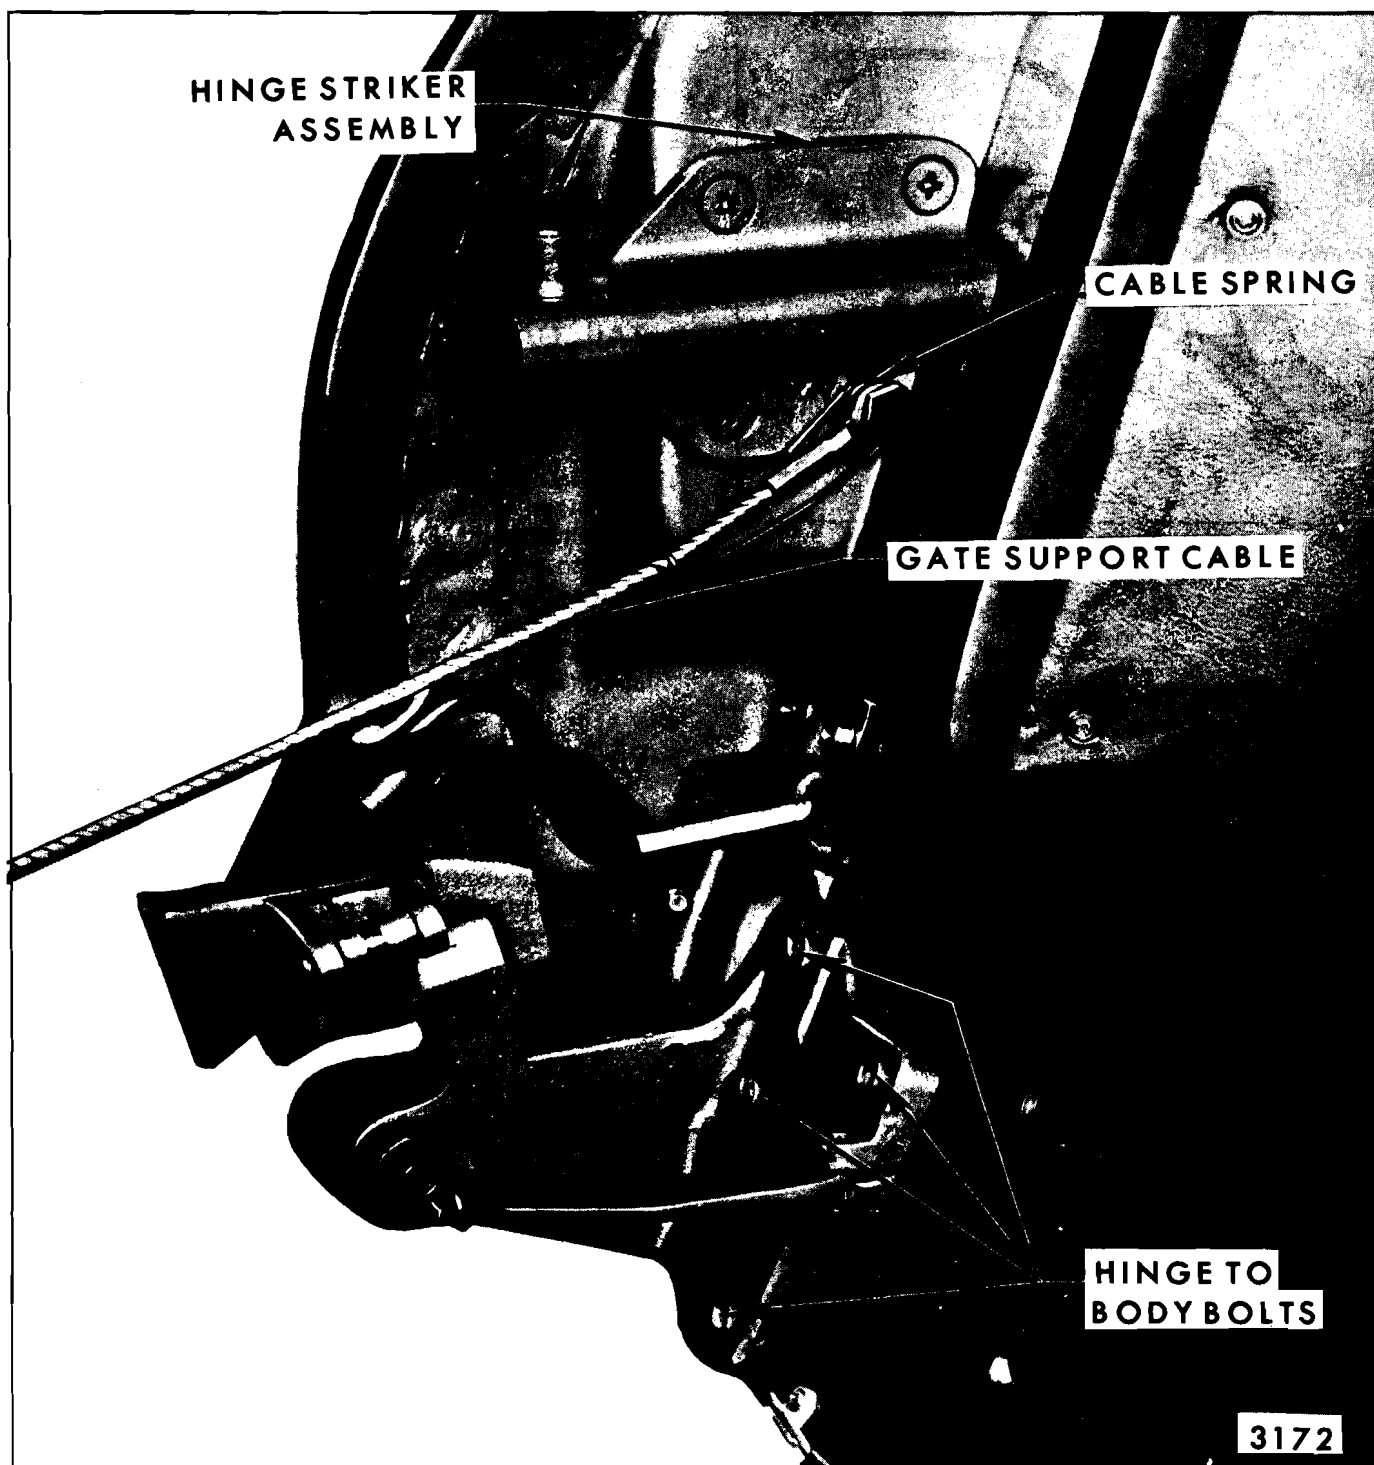

Fig. 9-12—Tail Gate Adjustments - "B" Body Shown - "A" Body Typical
The left hinge to body attaching bolts provide side to side adjustments (See Fig. 9-12).
2. Remove hinge to body attaching bolts and remove hinge (Fig. 9-12).